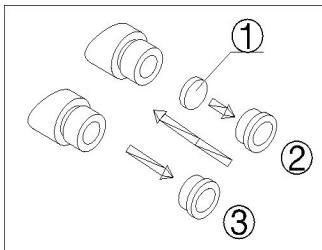

Fig.5
- 1) Turn and remove the mounting ring^② from the eyepiece.(Fig.5)
- 2) Clean the eyepiece micrometer^① and mount it to the mounting ring with the inscription side downward.
- 3) Gently twist the mounting ring with the eyepiece micrometer into the eyepiece till tightening^② securely.
- 4) To remove the eyepiece micrometer, take down the mounting ring^③ by twisting and take out of the micrometer, and then wrap it.